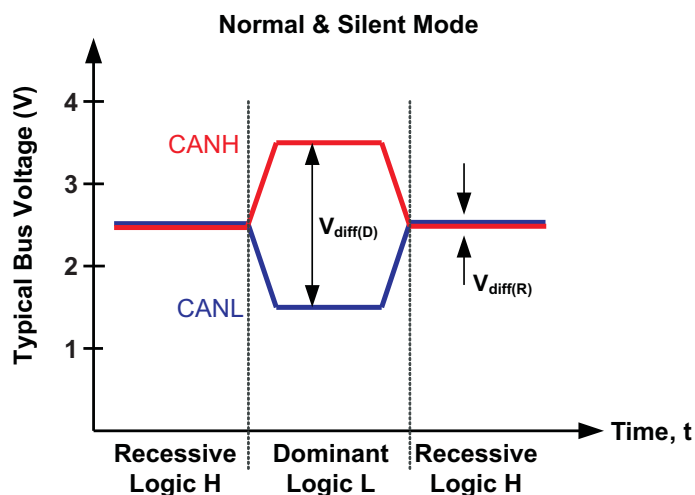
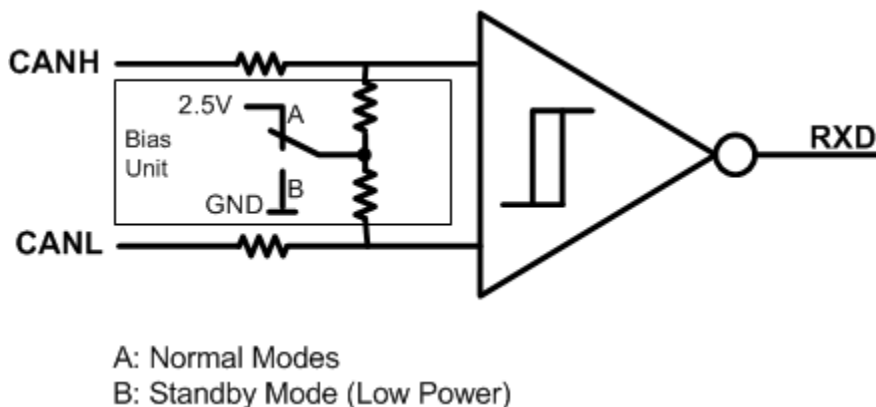

Figure 13. Bus States (Physical Bit Representation)
Figure 14. Bias Unit (Recessive Common Mode Bias) and Receiver
The CAN bus has two states during powered operation of the device; *dominant* and *recessive*. A dominant bus state is when the bus is driven differentially, corresponding to a logic low on the TXD and RXD terminal. A recessive bus state is when the bus is biased to $V_{CC} / 2$ via the high-resistance internal input resistors R_{IN} of the receiver, corresponding to a logic high on the TXD and RXD terminals. See Figure 13 and Figure 14.
- (1) H = high level, L = low level, X= irrelevant, Z = common mode (recessive) bias to $V_{CC} / 2$. See Figure 13 and Figure 14 for bus state and common mode bias information.
- (2) Devices have an internal pull up to V_{CC} or V_{IO} on STB terminal. If STB terminal is open the terminal will be pulled high and the device will be in standby mode.
- (3) Devices have an internal pull up to V_{CC} or V_{IO} on TXD terminal. If the TXD terminal is open the terminal will be pulled high and the transmitter will remain in recessive (non-driven) state.